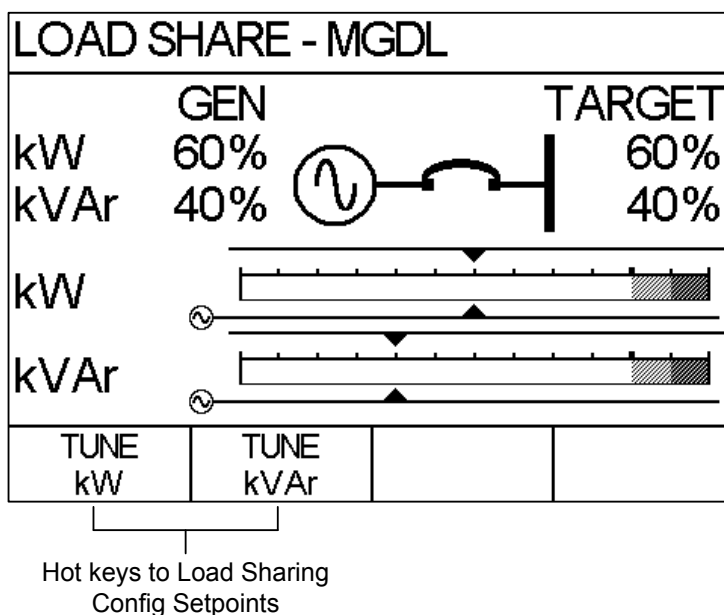

Figure 37.44 – MGDL Load Share Control Screen
- MGDL Load Sharing Control screen is similar to the view screen except it provides easy access to load sharing tuning parameters via the F1 and F2 hot keys (shown in Figure 37.44). To access the MGDL Load Sharing control screens through the EMCP display, navigate to the following sub-menus: